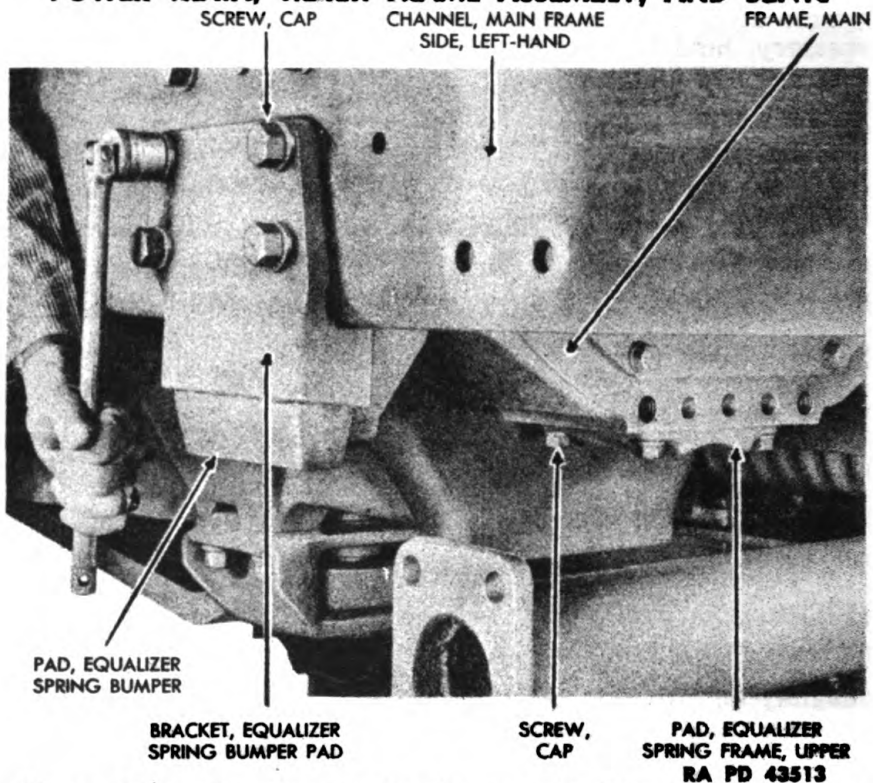

Figure 136 — Equalizer Spring Bumper Pad Bracket Removal
(5) REMOVE EQUALIZER SPRING BUMPER PAD BRACKETS (fig. 136).
(6) REMOVE UPPER EQUALIZER SPRING FRAME PAD (fig. 136).
(1) INSTALL UPPER EQUALIZER SPRING FRAME PAD (fig. 136).
(2) INSTALL EQUALIZER SPRING BUMPER PAD BRACKETS (fig. 136).